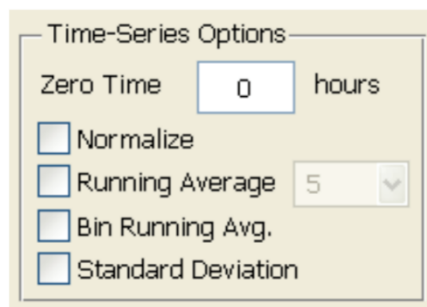

Figure 5. Data normalization
4. At the desired time point, click Finish (7) to stop the experiment and analyze the data.
5. Low frequency (500 Hz or 250 Hz) is usually used to monitor the barrier function of the cell monolayer. Choose the desired time point as time 0 and select "Normalize" (Figure 5). According to the product manual, for tight epithelial cells, impedance at low frequencies is more sensitive and provides a very effective measure of the layer's barrier function. The normalized resistance curve at 500 Hz is shown in Figure 6. The results indicate that LPS disrupted the barrier function of IEC-6 cells.